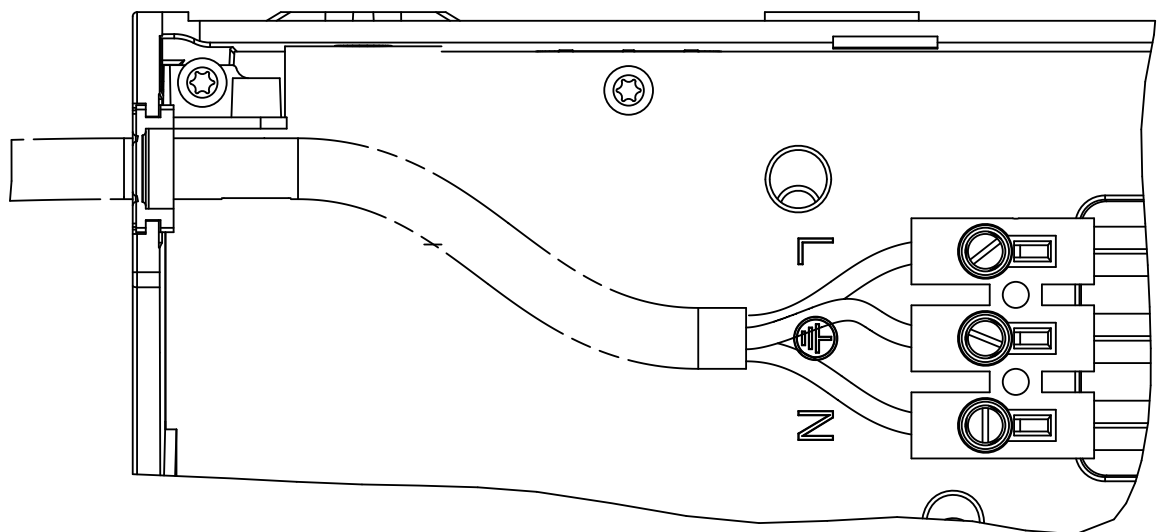

Figure 8: The mains power supply connection
- 7) Connect the power supply cord from the additional Handset Charging Rack to the unused terminal block in the Handset Charging Rack closer to the AC power source. Note the embossed markings L, earth symbol and N, see Figure 8: The mains power supply connection on page 13.